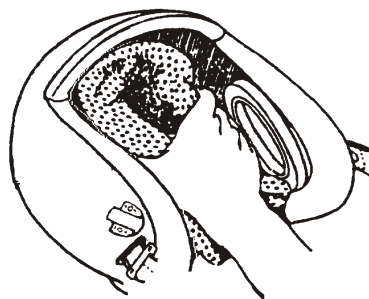

Figure 2-7. Installing TPL
3. Referring to Figure 2-7, install the TPL into the helmet by squeezing the TPL sides together to clear the earcups and ensuring that large holes in the TPL assembly (wide end) are toward the front of the helmet assembly.